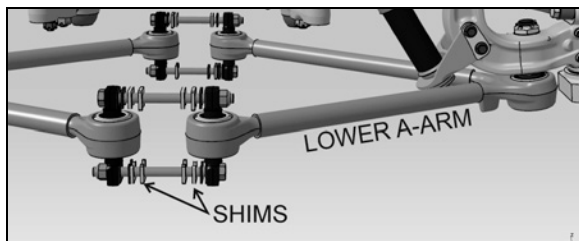
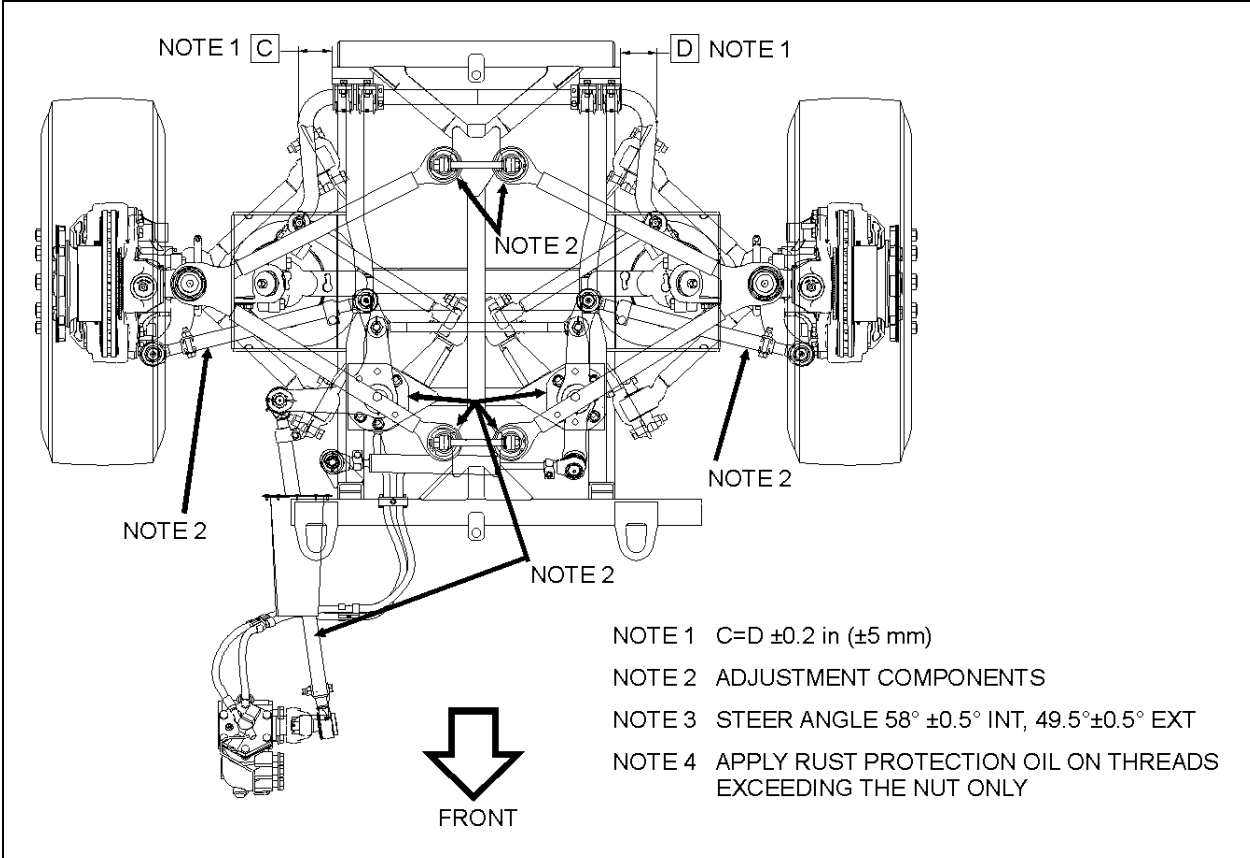
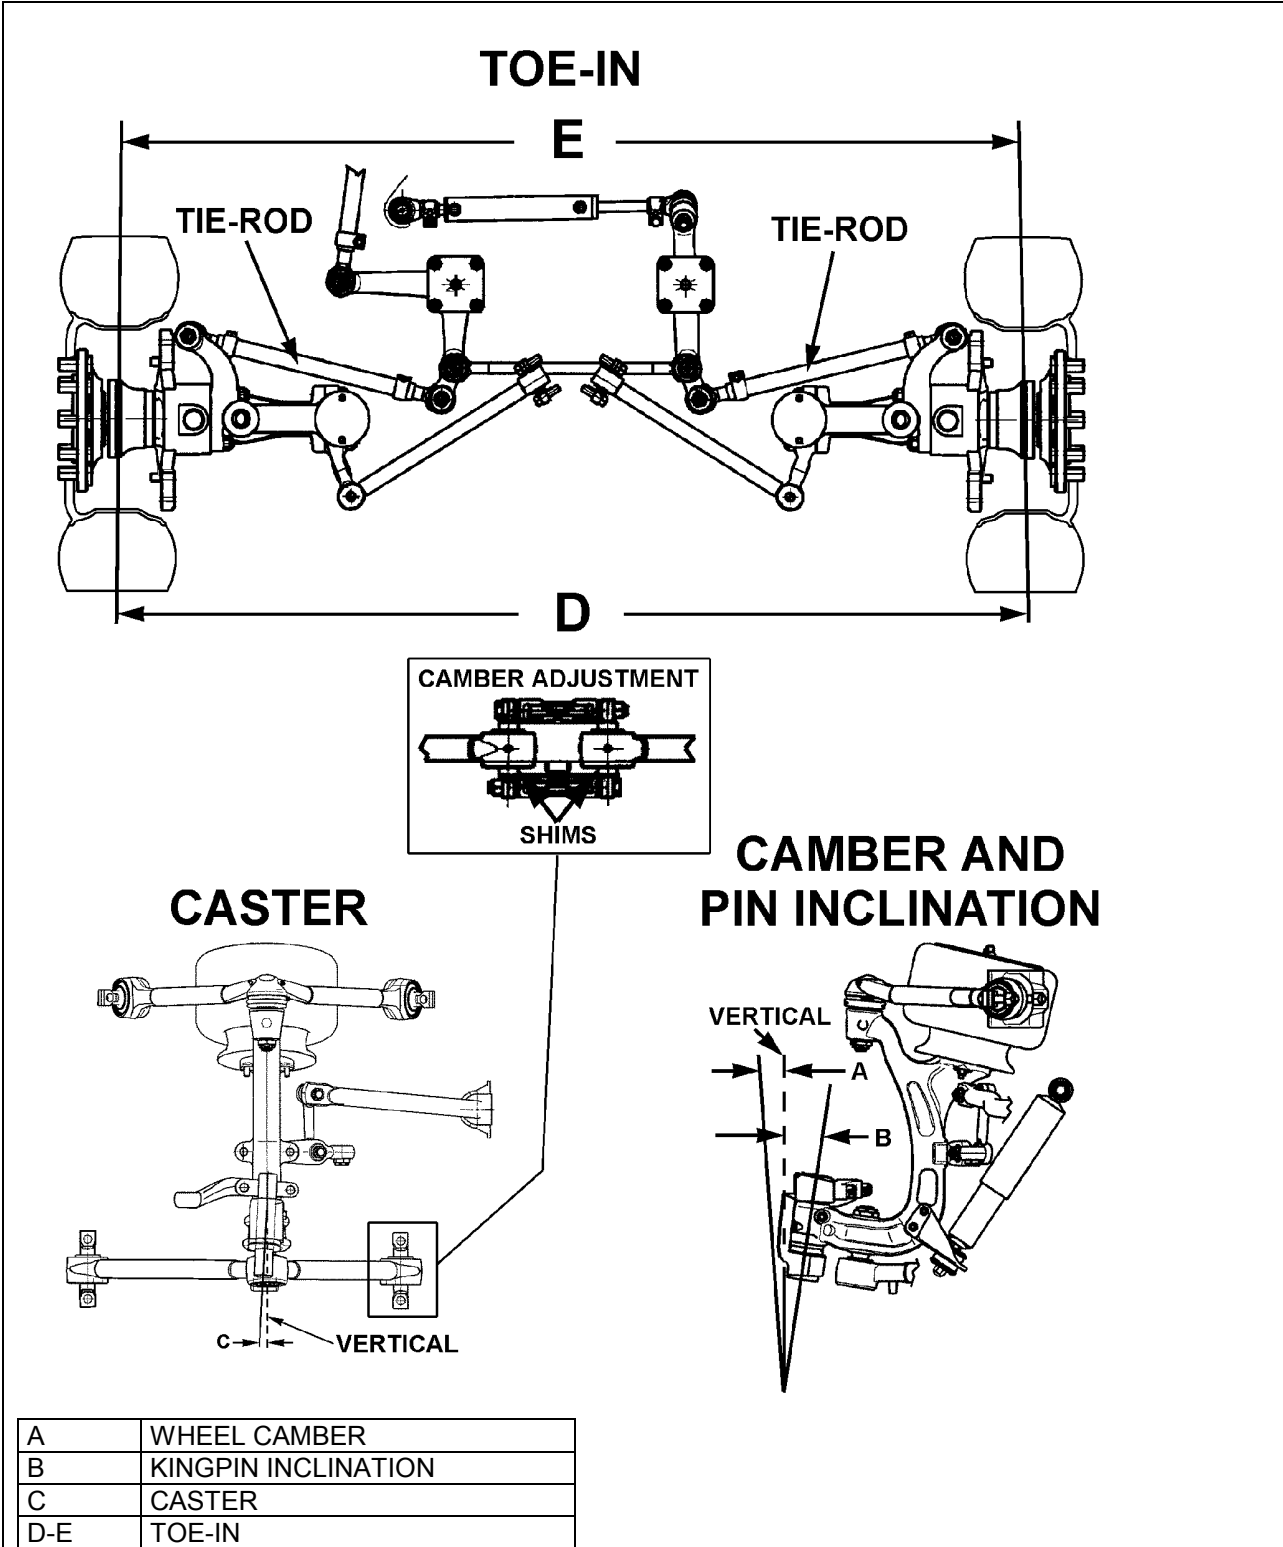

FIGURE 22: SHIMS AT THE LOWER A-ARMS
FIGURE 25: IFS ADJUSTMENT
FIGURE 26: FRONT END ALIGNMENT DIAGRAM
Wheel Camber: Camber is the number of degrees the top of the wheel is tilted inward or outward from a true vertical (Figure 26).
(D minus E, Figure 26).
Kingpin Inclination: The inclination of the kingpin from vertical toward the center of the vehicle at the top and outward at the bottom (B, Figure 26).
Front Axle Caster: The inclination of the kingpin from vertical in the fore and aft direction (C, Figure 26).
Shim the lower A-arm to adjust camber (Figure 22 & FIGURE 25). If the kingpin inclination is incorrect, the wheel kingpin assembly may be bent and therefore should be replaced.
2. Using a pipe wrench, turn the tie rod tubes to obtain the toe-in measurement specified in step 5 under paragraph "Toe-in Check" (Figure 26).
Caster variations may be caused by bent upper suspension A-arm, lower suspension A-arm, or kingpin housing. Caster should be adjusted with shims. Precision instruments should be used to measure caster. Shim bell crank and idler arm to adjust caster (Figure 26).
See FIGURE 25 & Figure 26.